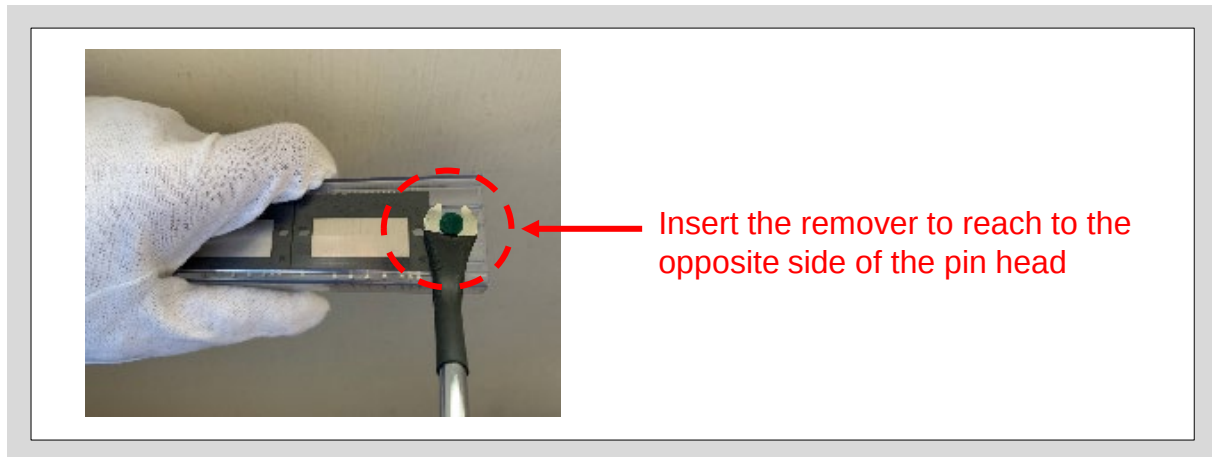

Fig. 2-4 Insert remover
- C) Insert the removal part of the remover into the gap between the pin and the tube. (See Fig. 2-4)